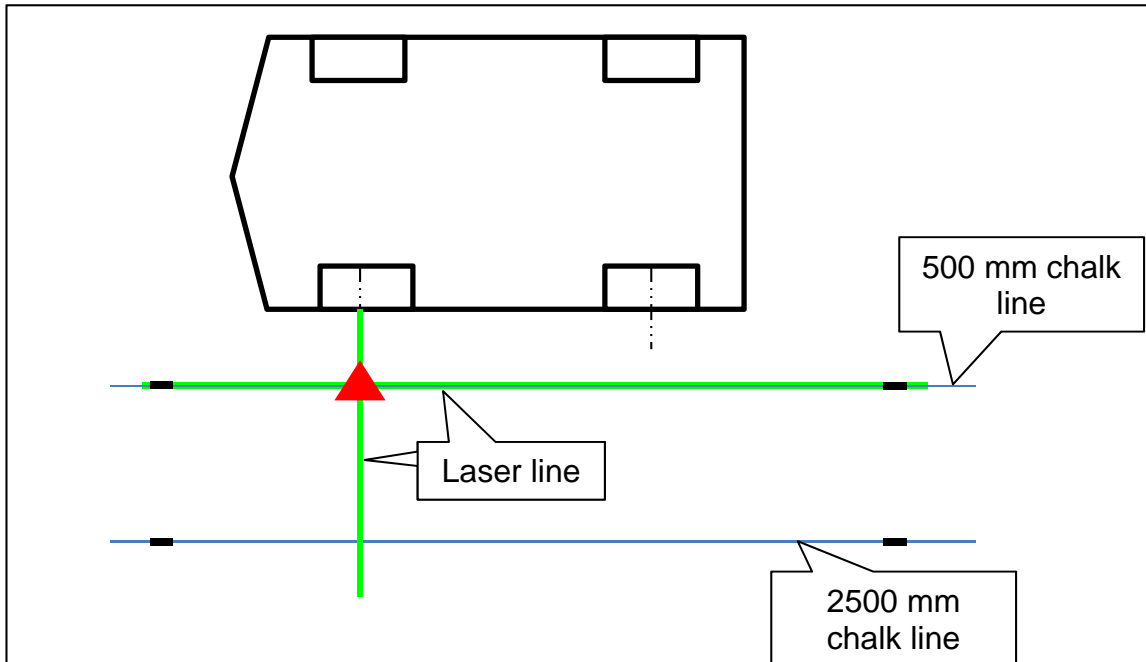
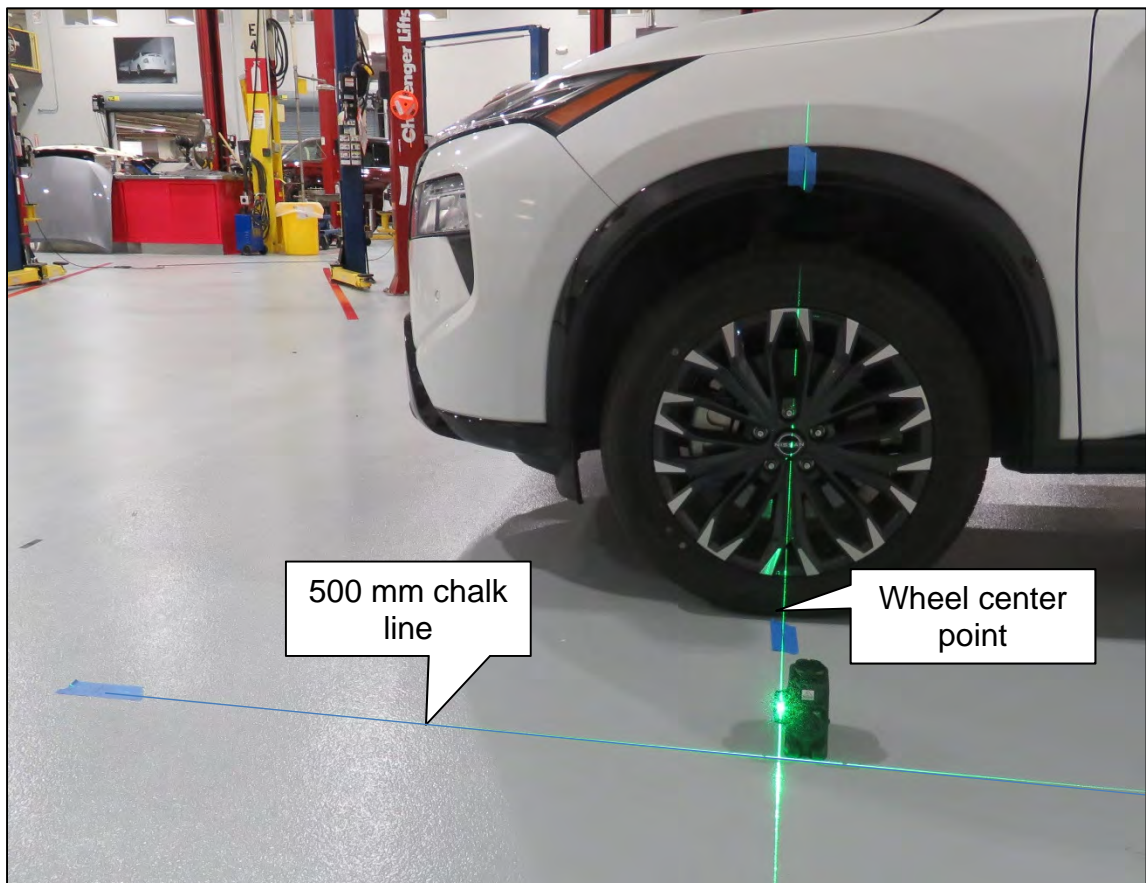

Figure 30
Figure 31
25. Place the laser level with both vertical lines activated, and align one laser line with the 500 mm chalk line and align the other laser line to the center point on the front driver (LH) side wheel, as shown in Figure 30 and Figure 31.